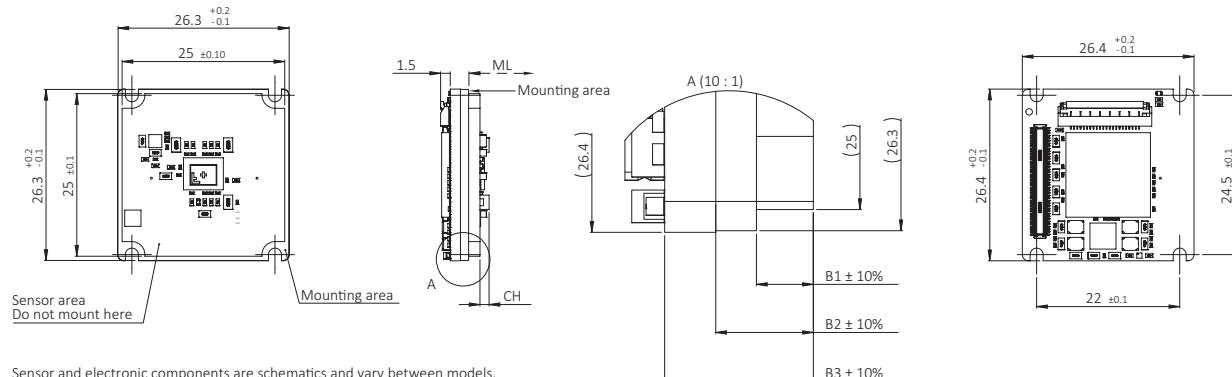

Figure 33: Bare Board dimensions
Dimensions that are common between different models are shown in Figure 33, model specific dimensions are listed in Table 49. **Mechanical length** (ML) defines the mechanical distance from the mounting area to the lens mount front flange, without optical filter. **Components height** (CH) relates to the electronic components with maximum height, sometimes the sensor.